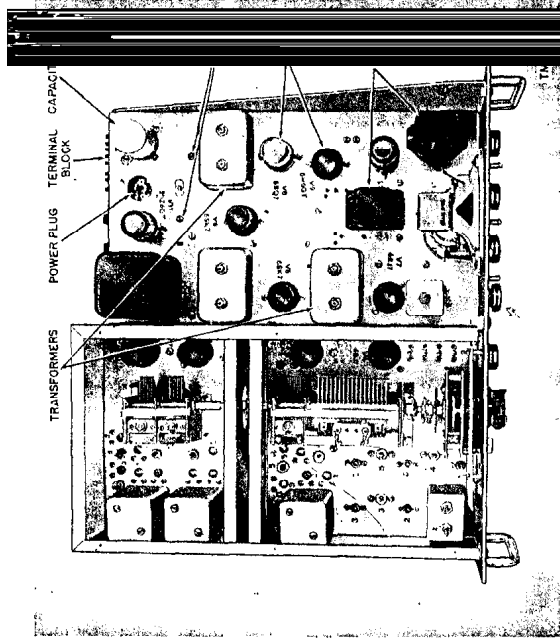

Figure 10. Radio Receiver R-96A/SR, top view showing typical PM items.
c. Access to the fuses, antenna and terminal strip connections, and power input connection can be made by removing the four Dzus fasteners which hold the rear access plate to the receiver. A rear view of the receiver with the access plate removed is shown in figure 3. The polarized power plug is located on the top of the chassis (fig. 10). A 1½-inch hole has been made on the right side (towards the rear) of the dust cover in order that the power line can be brought through the dust cover to the chassis. A 1½-inch hole is necessary to allow room for the power plug to pass through the dust cover.